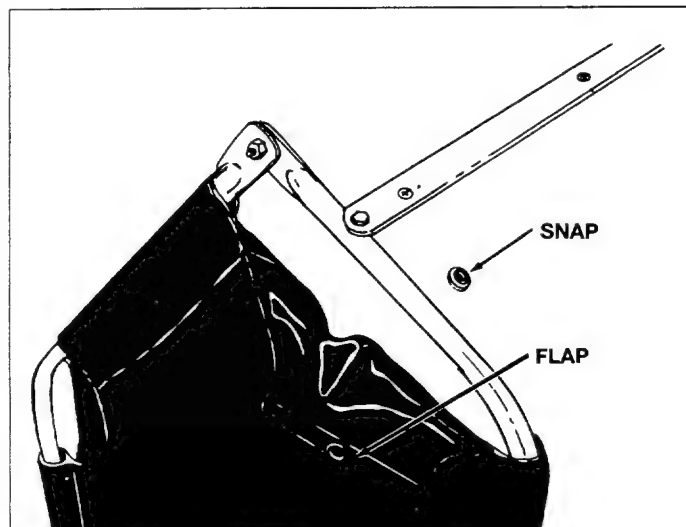

Fig. 20
10. Secure the bag corners over lower hopper tube by snapping the flap to bag bottom on both sides. See figure 20.